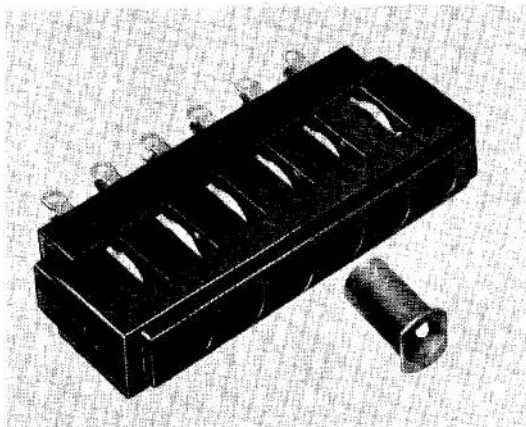

Fig. 1. Multiple indicator and collet
1. The Thom Type 80/10/0281 multiple indicator, shown in fig. 1 is used in instrument or warning panels where space is limited and a large number of warning indicators are required. The multiple indicator of six warning lamps accommodated in one moulded unit has shoulders at each end which fit into a channel-section mounting, by fitting long mounting bars further indicators may be stacked on top of the first and secured by the same mountings.